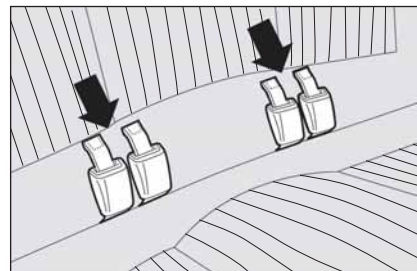

fig. 104
- ☐ fasten the buckles to the tabs (shown by the arrows) on the backrest **fig. 104**;